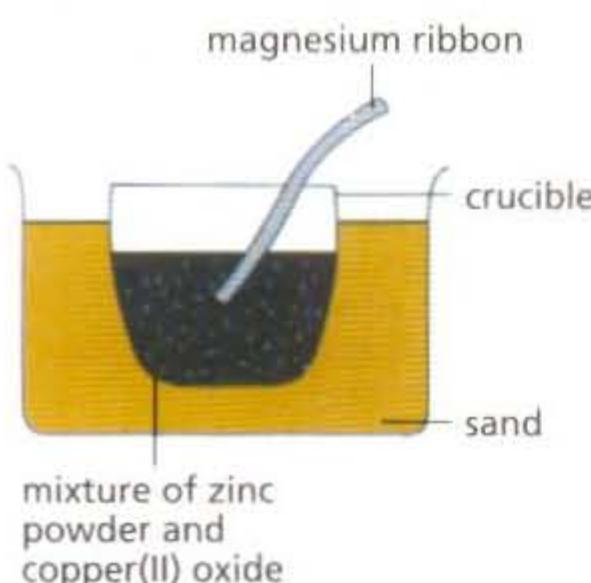

Fig. 14.13 Reaction between zinc and copper(II) oxide
A more reactive metal has a higher tendency to form its positive ions compared to a less reactive metal. This is why a more reactive metal can reduce the oxide of a less reactive metal. An example is the reaction between zinc and copper(II) oxide. Fig. 14.13 shows the apparatus used to study the reaction.
The more reactive the metal is, the more readily it forms compounds. On the other hand, unreactive metals tend to stay uncombined. Therefore, if the experiment shown in Fig. 14.13 is repeated using a mixture of zinc oxide and copper powder, no reaction will occur.